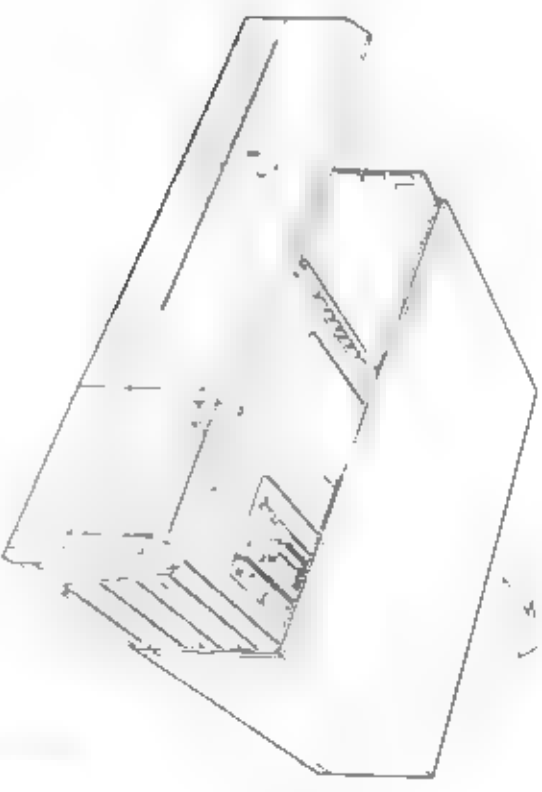

Figure 3-4 Removing the System Unit Cover
3. Holding the system unit cover by the sides, gently slide the cover back and then lift the cover up and away from the front of the system unit (Figure 3-4)